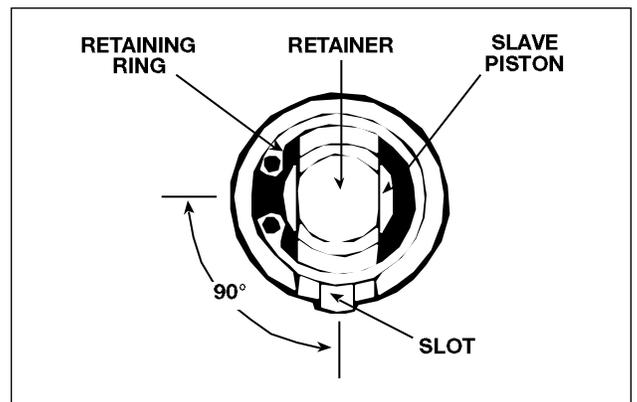

FIG. 26
8. Compress the slave piston springs down until the retainer is about 0.040" (1 mm) below the retaining ring groove. Reinstall the retaining ring. Be sure the retaining ring is fully seated in the groove. Rotate the retaining ring about 90° away from the slot in the housing (Fig. 26).